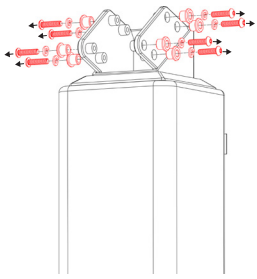

Figure 6
- Remove the hardware from the top end of the Base Pole. See Figure 6.